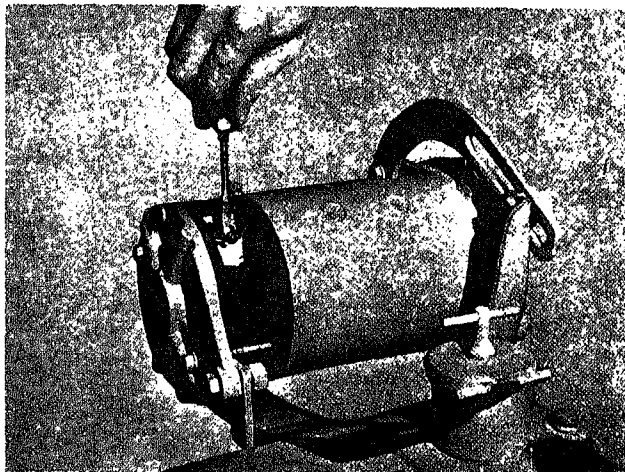

FIG. 5-49. Checking generator brushes
2. Replace worn brushes. If brushes wear rapidly, check for incorrect brush spring tension, Fig. 5-49, or high mica on the commutator. Check output by action of ammeter indicator needle after brush replacement.